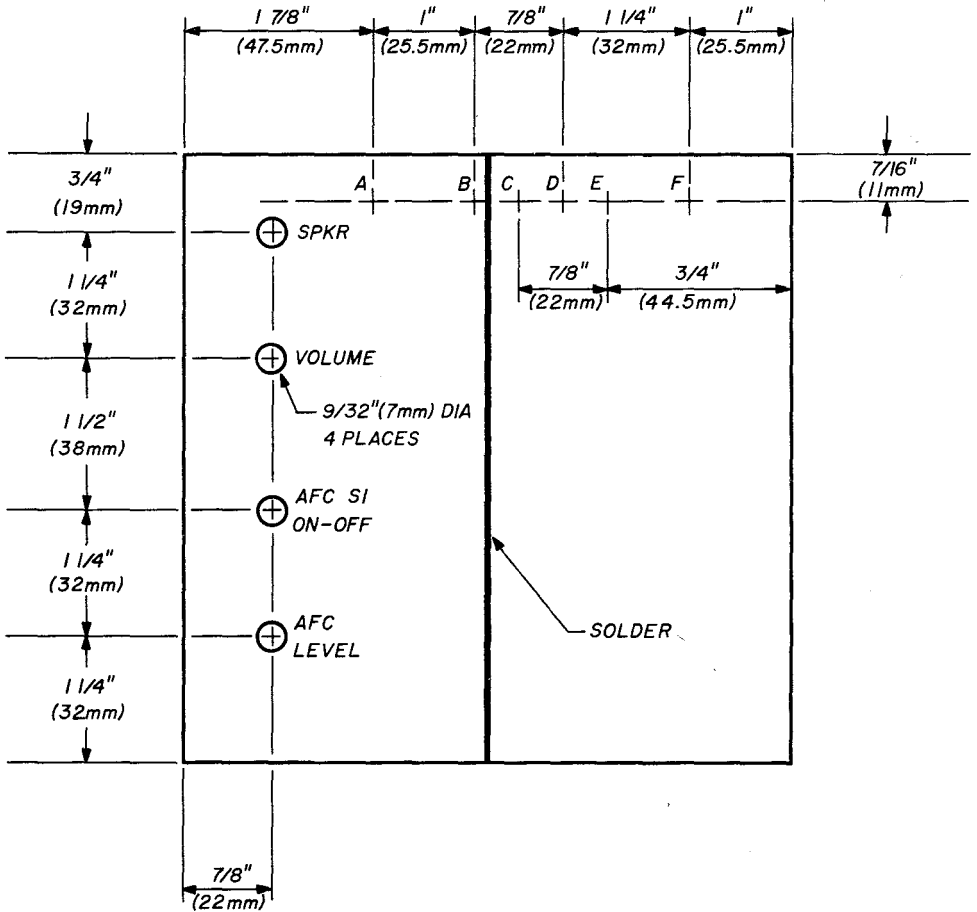

Figure 9-9.
10. Solder a 6-inch (153 mm) length of no. 28 (0.3 mm) twisted pair (color coded) to each of these resistors. Bring the pair out through the grommet on the rear of the chassis. This pair will serve as a simple but effective "S" meter connection to drive a 0-50 microammeter. It connects to the insulated S meter mini phone jack shown in *Figure 9-9*. Observe correct polarities. For a much better zero reading S meter circuit, use the design on page 256, figure 8-24C, in the 1976 *ARRL Radio Amateur's Handbook*.
Solder two 3 by 6 inch (76.5 by 153 mm) double-sided G10 printed circuit boards together as shown in *Figure 9-9*. Refer to *Figure 9-9* for the following dimensions and hole sizes: